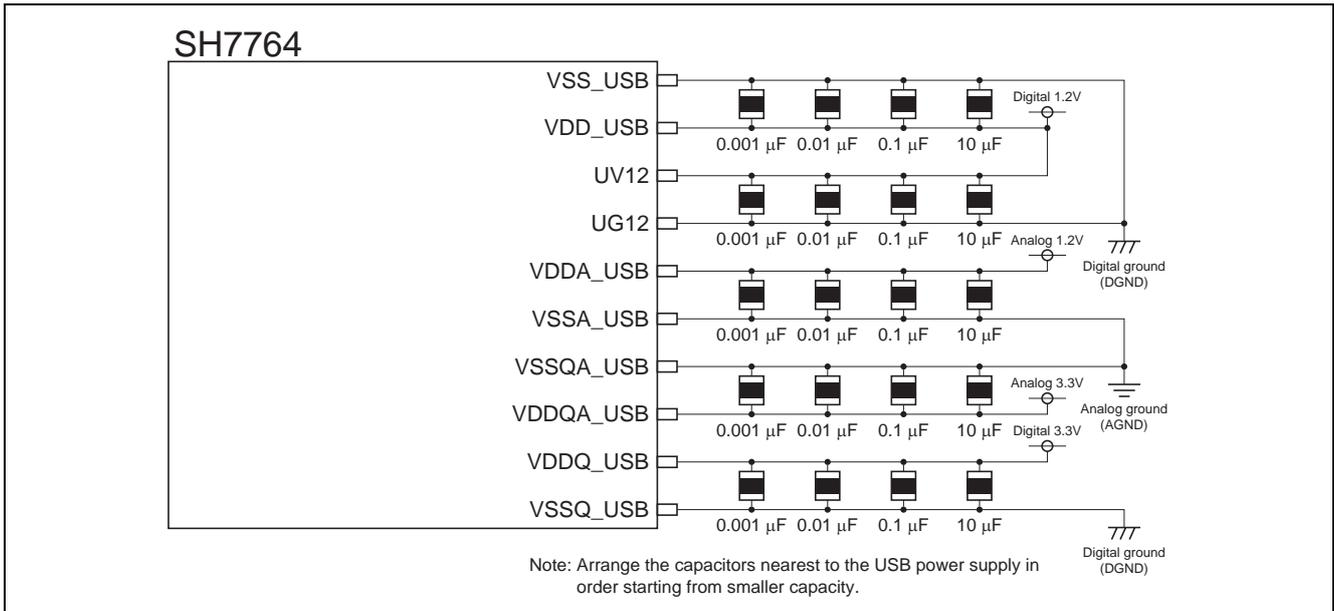

Figure 3 Example of the Decoupling Capacitor Allocation
- As the capacitance value of decoupling capacitor, it is recommended that the capacities for 0.001 μF, 0.01 μF, 0.1 μF, and 10 μF are allocated closest to the USB power supply pin. Figure 3 shows an example of decoupling capacitor allocation.